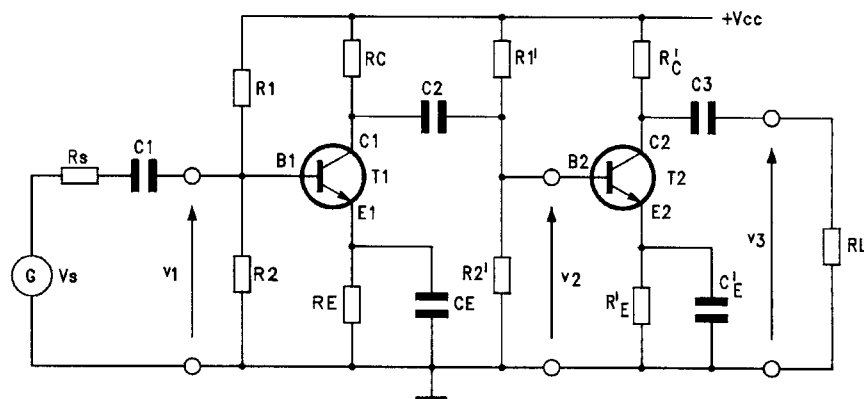
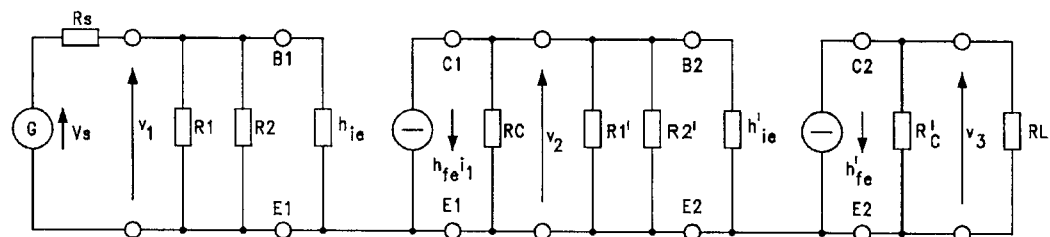

fig.B23.1
fig. B23.2
In a multi-stage amplifier, an RC coupling is when the connection between one stage and the next is achieved with a capacitor. C2 in figure B23.1 represents a coupling of this kind between two common emitter stages.
An ac or dynamic study of the amplifier of figure B23.1 is carried out using the equivalent circuits of each single stage. The diagram of the figure B23.1 becomes the one of figure B23.2. In the circuit there are some simplifications, i.e. the parameters  $h_{re}$  and  $h_{oe}$  of both transistors are assumed negligible.
**Q1** What is the configuration of the two stages in fig B23.2?